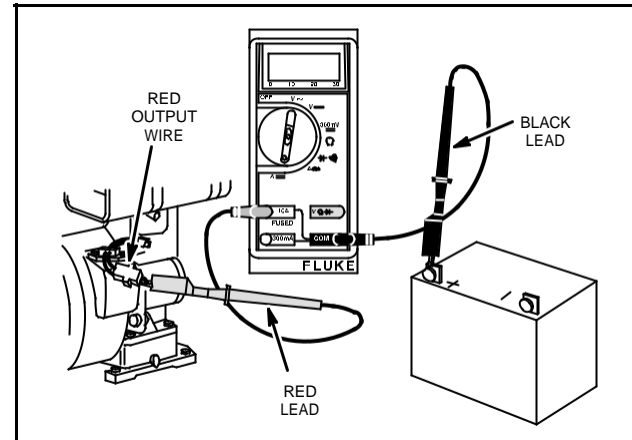

Fig. 772 – TESTING REGULATOR OUTPUT
4. Attach RED test lead clip to charging output pin (red wire), Fig. 772.